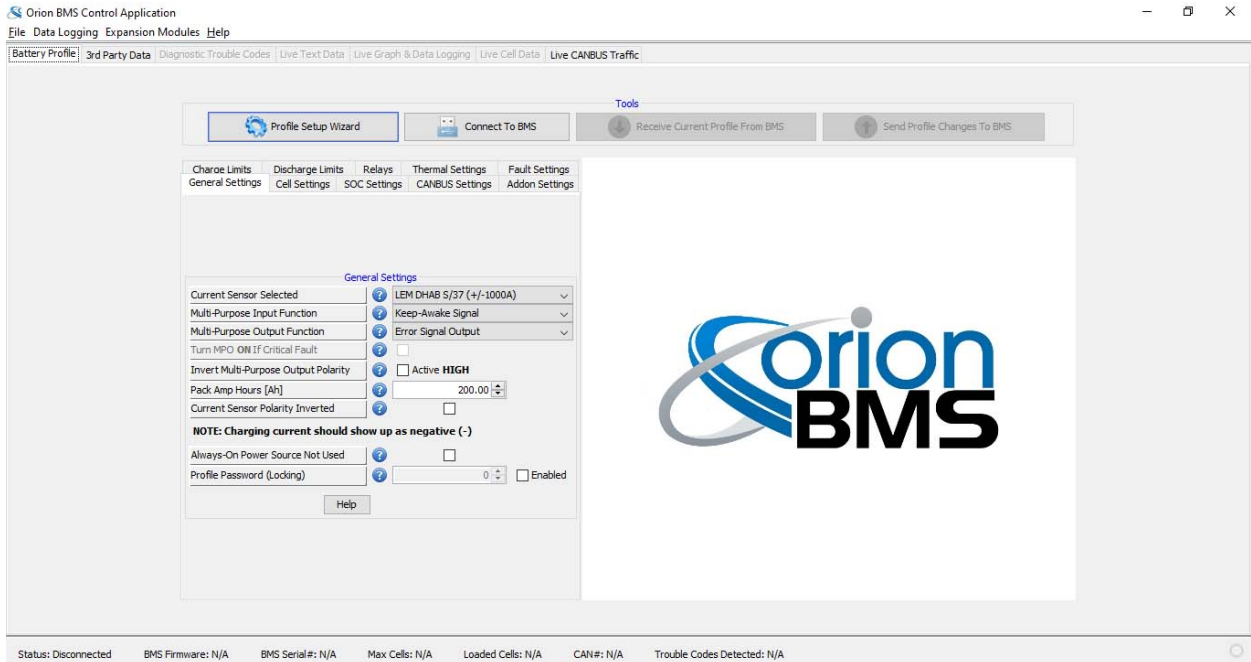

Fig. 1
1. Open the Orion BMS utility. (Fig.1)